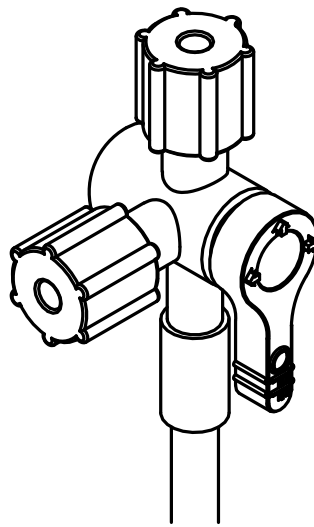

Figure 3. 3-way valve in closed position
6. Close the 3-way valve. See Figure 3.